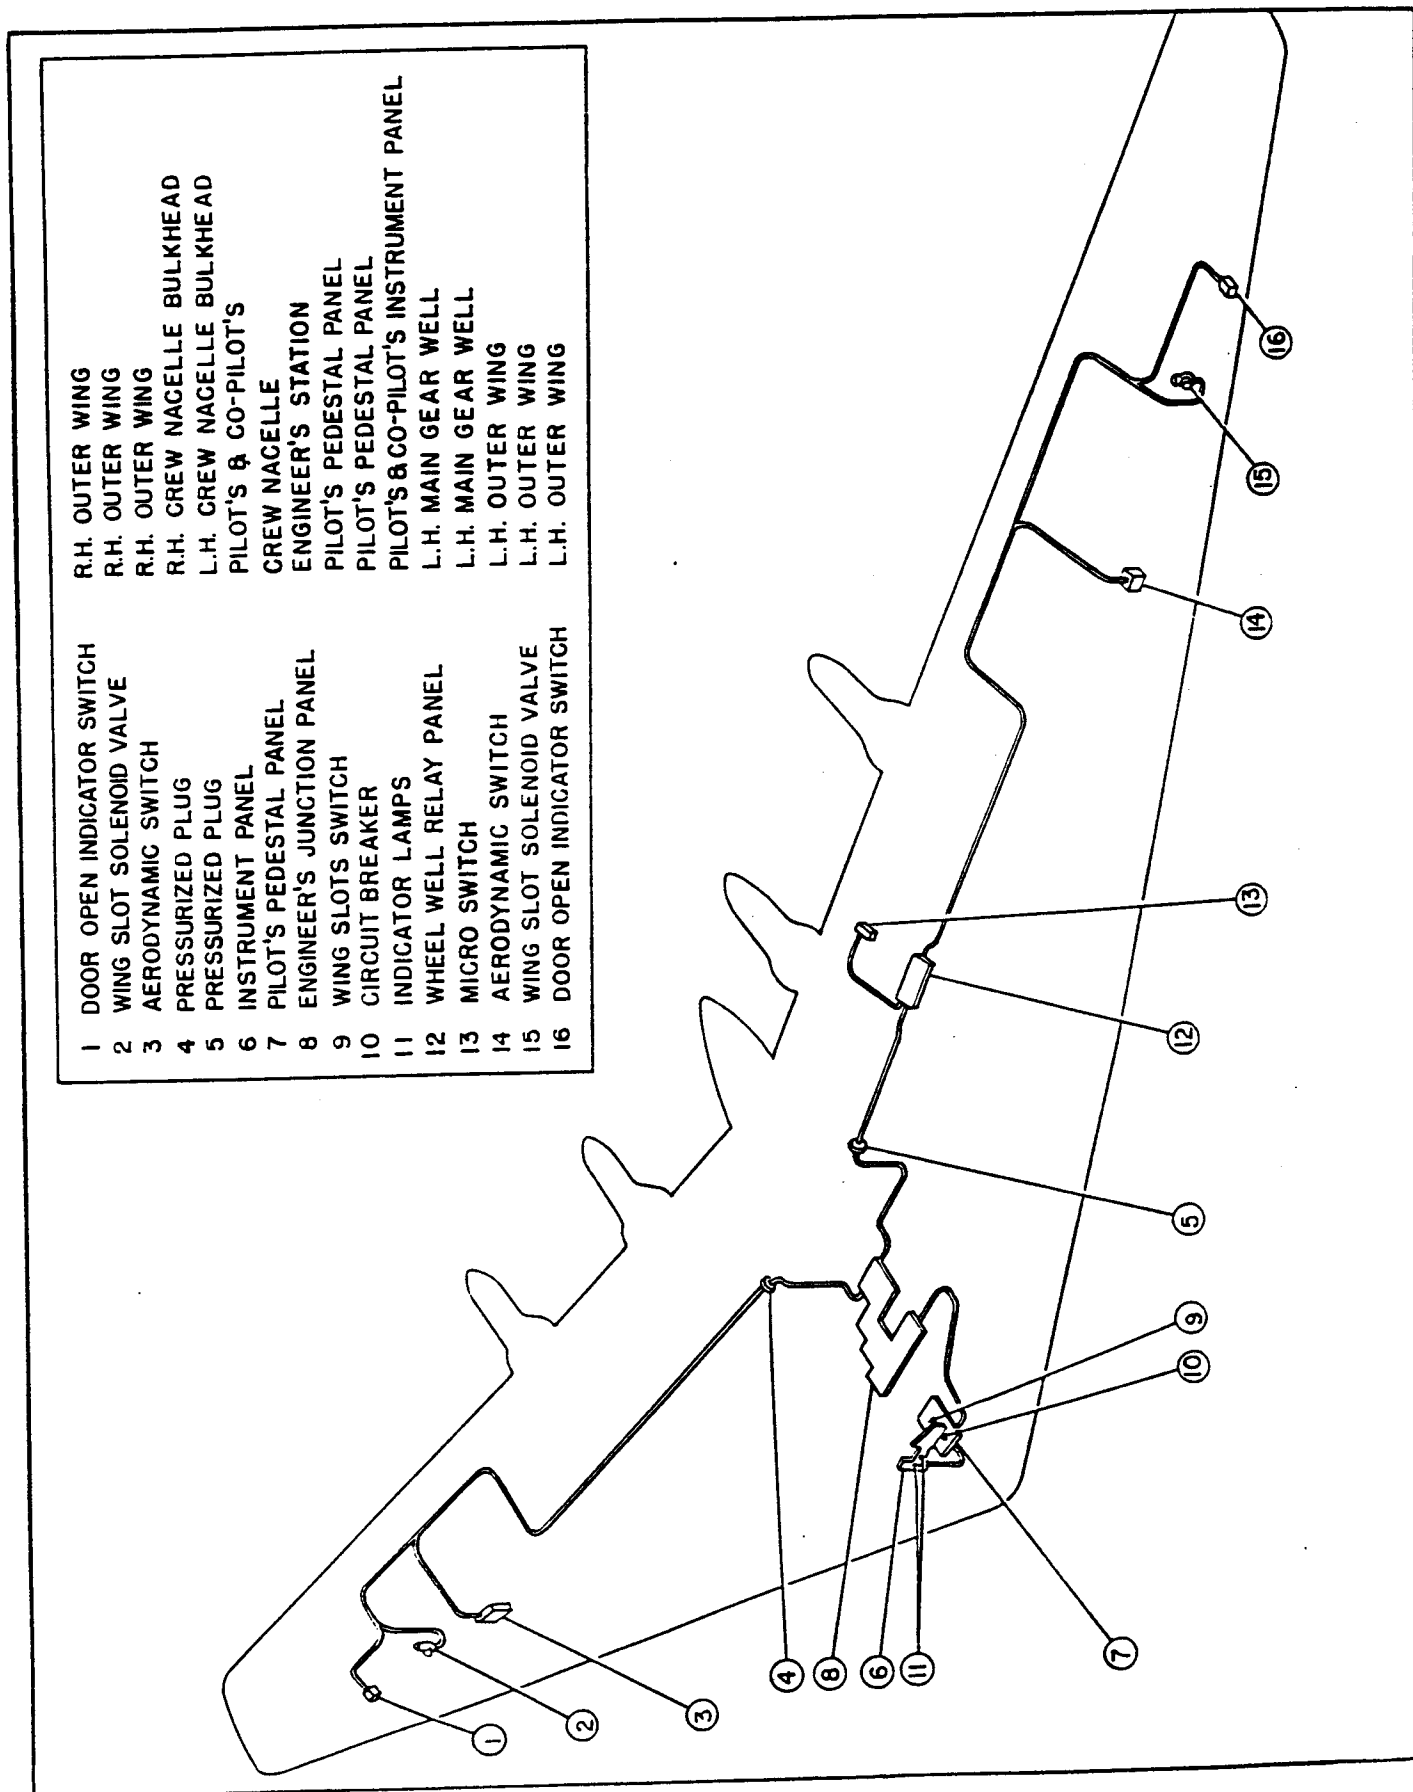

Figure 6. Wing Slot Door Control
(5) WING SLOT DOOR CONTROLS. (See figure 6.)- Wing slot doors are electrically-controlled and hydraulically-actuated. They are controlled by a three position switch located on the pilot's pedestal and indicator lights are installed on the pilot's instrument panel to show the open position of the doors. Inasmuch as it is desirable to have the slot doors open during take-off and landing, a switch actuated by the main gear in its down position keeps the doors open until the gear is retracted.